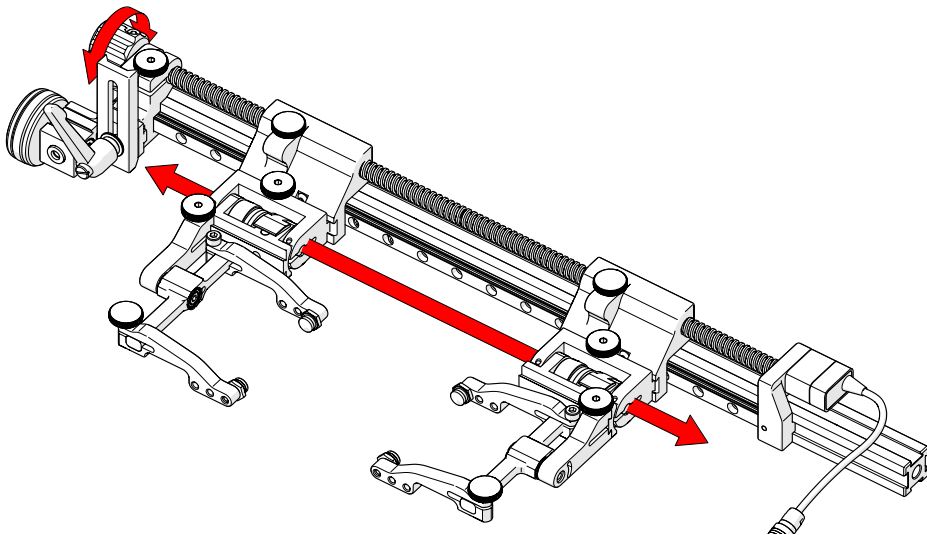
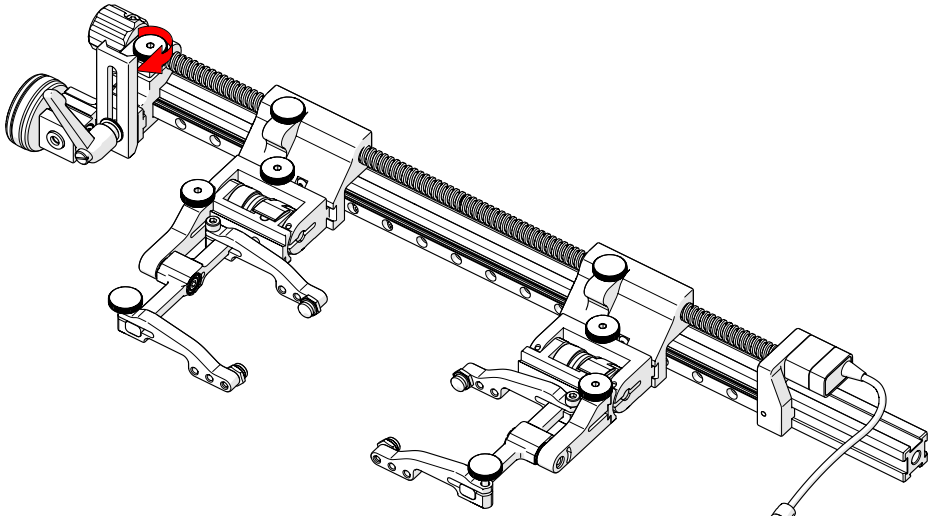

Fig. 169 - Adjustment knob
Fig. 170 - Tighten PPS lock knob
4. Ensure the PPS lock knob (Fig. 170) is loose. Use the PPS adjustment knob to position both carriages simultaneously (Fig. 169).
5. The PPS lock knob prevents the leadscrew from movement once scanning is underway (*Fig. 170*).